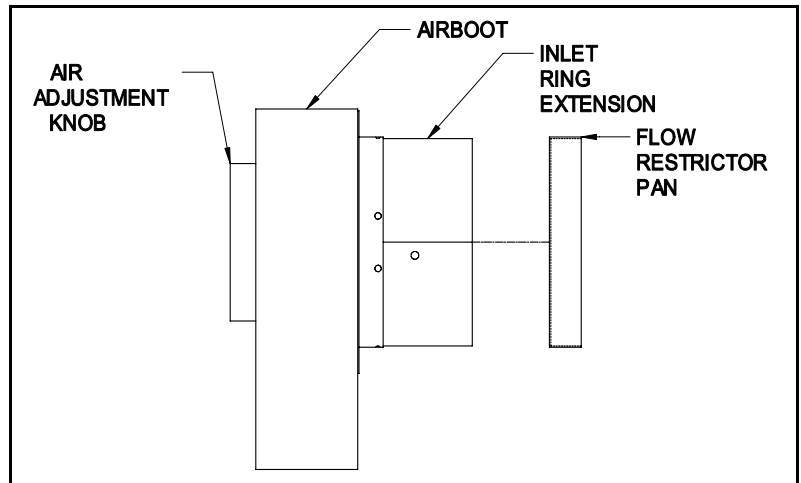

Figure 4
- a. Insert flow restrictor pan in the inlet collar with the flat of the pan inward. (See Figure 4)